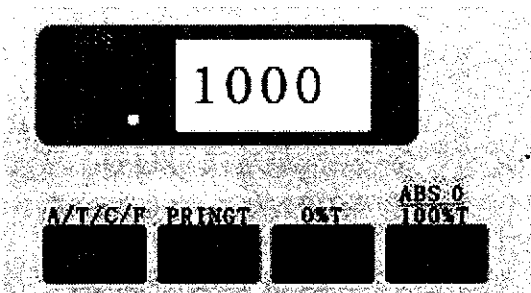
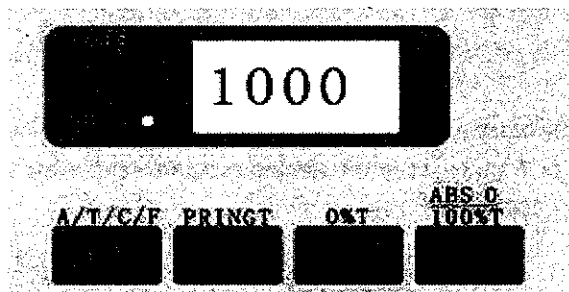

Fig.1-12
Fig.1-13
- b. To be used as the ascending key (effective only in F mode). Press the key and the F value will increase by 1 (Fig.1-12 & Fig.1-13). A long press will speed up the increase. When the F value reaches 1999, another press of the key will change it to 0. And still another press it will increase by 1.